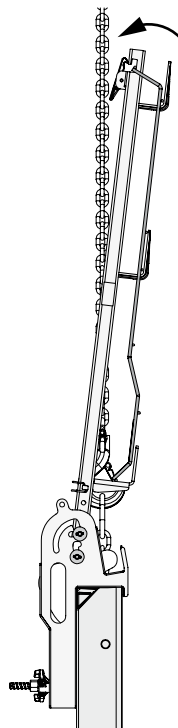

Fig. A7.29b
4. Fold back the Guardrail Post with the Side Mesh Barrier. (Fig. A7.29b + A7.30)